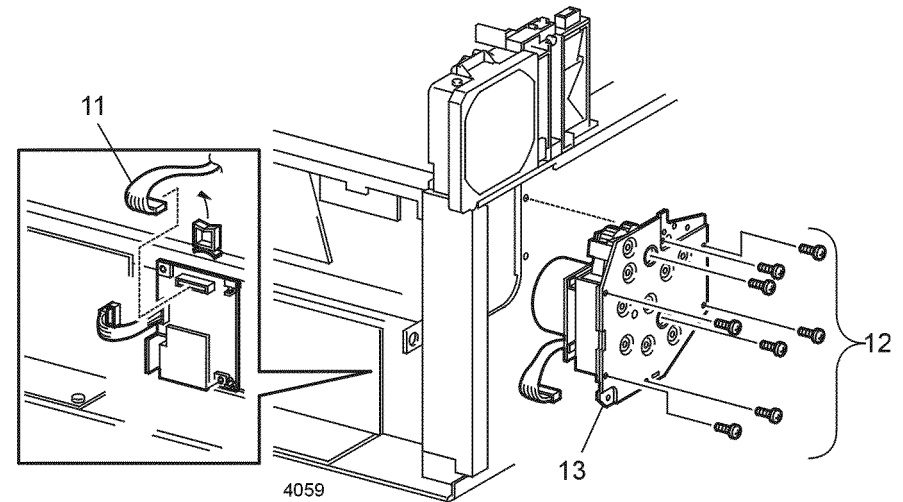

Figure 2 Gear Drive Assembly
11. Disconnect CN2 from the Motor Drive PWB (Figure 2).
12. Remove the eight screws that secure the Gear Assembly to the printer (Figure 2).
13. Remove the Gear Assembly and Motor from the printer (Figure 2).